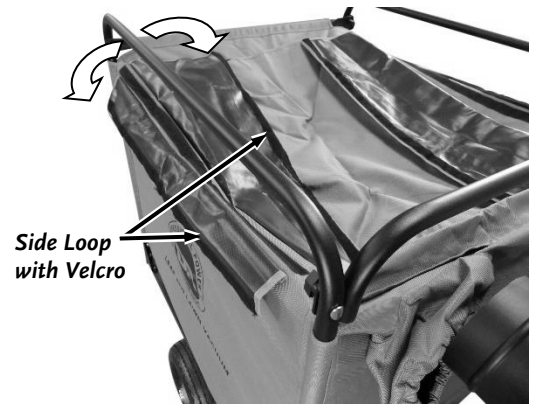

Figure 40
19. Open up the side Loops by pulling at the Velcro closures to separate them (**Figure 40**).